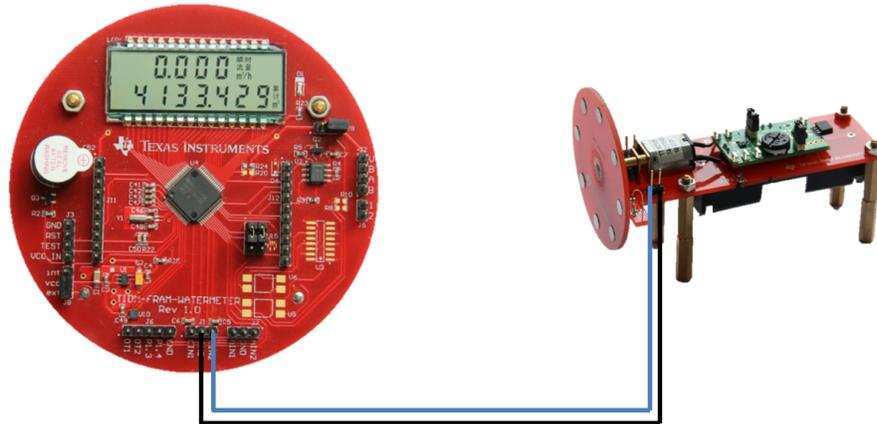

Figure 15. Basic Demo Setup
2. Connect a pulse signal to the J1 IN2 channel connector. Channel IN1 is not enabled in current firmware. In this demo, a motor board drives a rotor disc that has 8 magnets on it to emulate water flow. Two reed switch sensors are on each side of the motor board. When the rotor disc spins, the reed switch sensor generates the pulse signal. Figure 15 shows the demo setup.